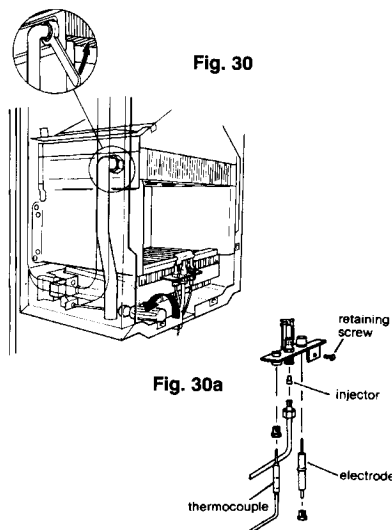

Fig. 30
Refer to fig. 30 A
8.6.3.3 Release screw securing pilot burner assembly. (fig. 30 A).
Refer to fig 30
8.7.5 Remove four burner retaining screws (see fig 30)
Refer to fig. 30
8.9.6 Unscrew unions on either side of main heat exchanger. (fig. 30).